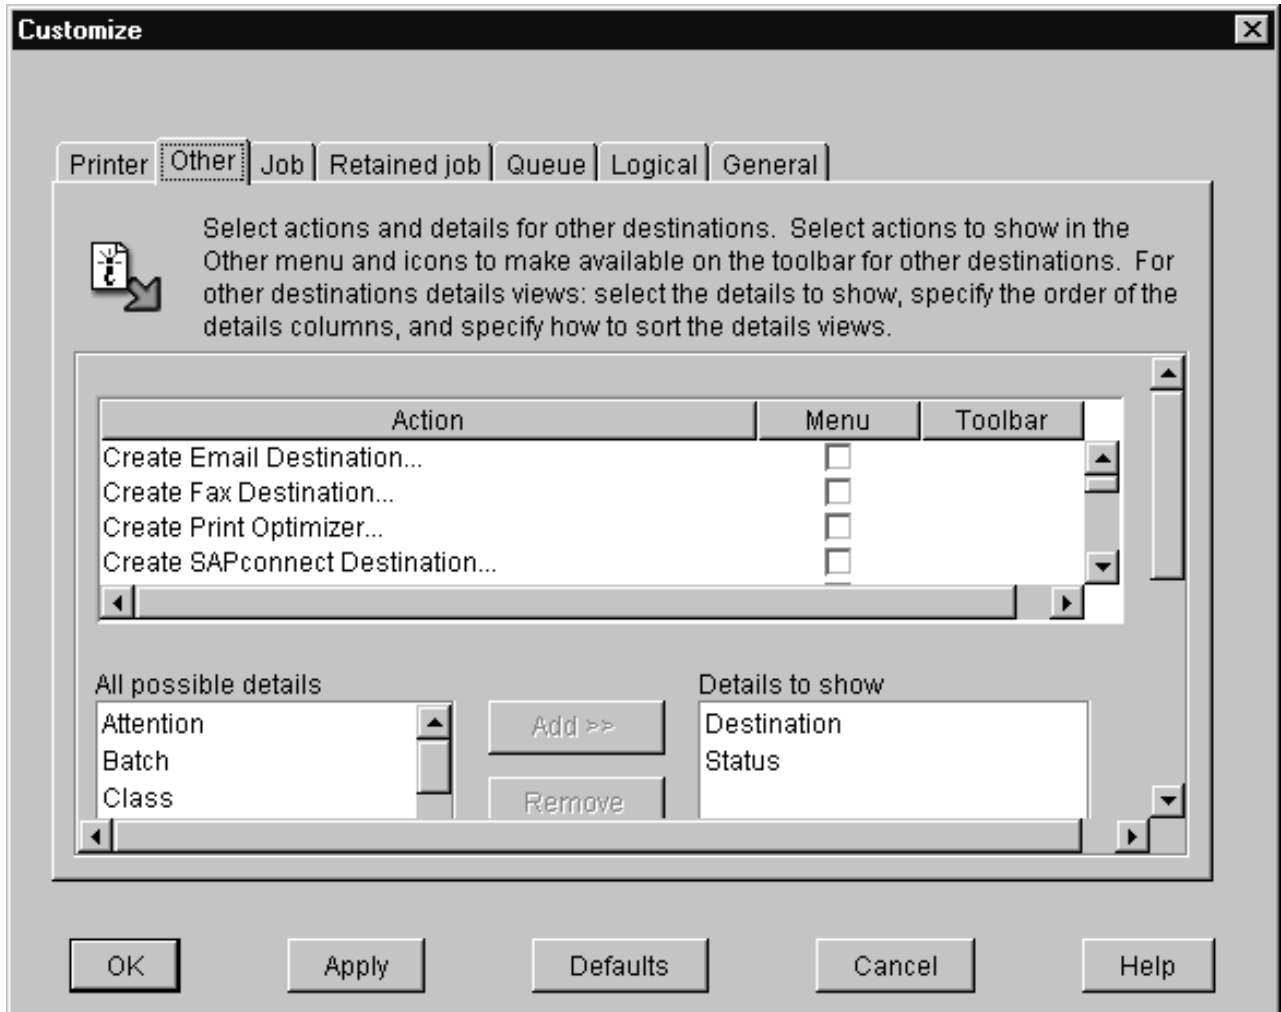

Figure 23. Customize dialog for adding the Fax option
- c. Check the fax option in the **Customize** dialog (see Figure 23 on page 81).